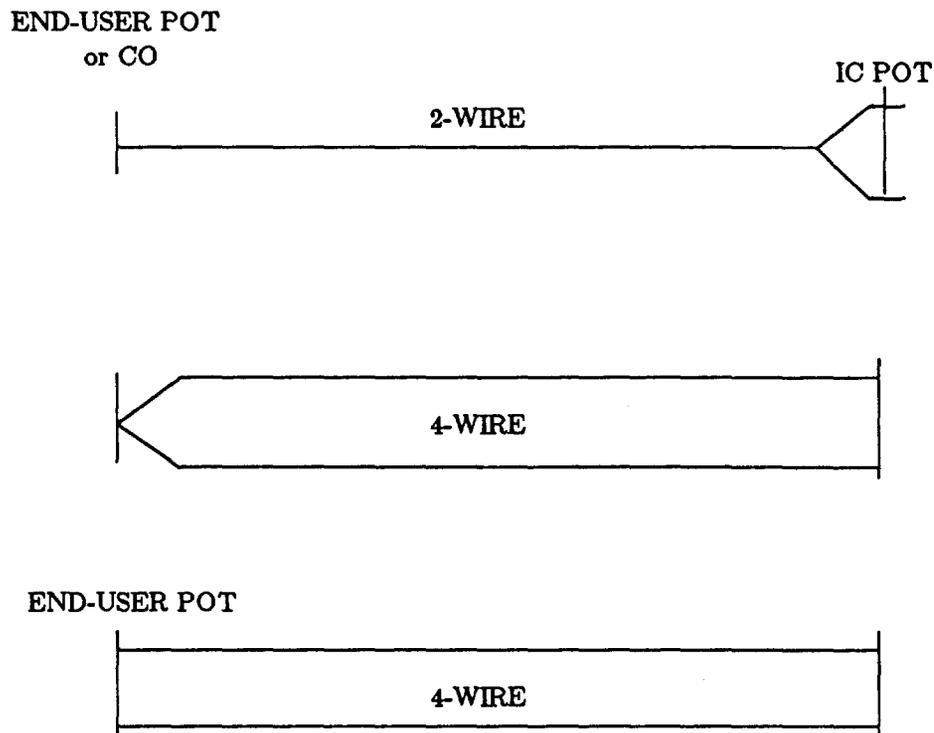

Figure 4. Typical VG2 Channel Configurations
Voice Grade 2 (VG2) channels are suitable for the access segments of two-point voice private lines and switched-special-service circuits. For services such as Foreign Exchange (FX) that are switched at a BCC CO, this channel is suitable for the station or "closed end" only. The "open end" of an FX service is provided by a switched-access Feature Group A channel. Typical configurations for a VG2 channel are shown in **Figure 4**.